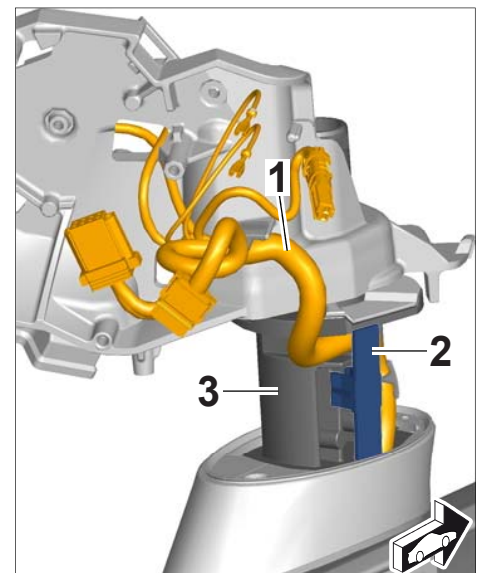

Figure 4
- 4.2 Install an additional cable holder ⇒ *Figure 4* -**item 2**- as shown in ⇒ *Figure 4* on the mirror base ⇒ *Figure 4* -**item 3**- and use it to secure the wire harness ⇒ *Figure 4* -**item 1**-.